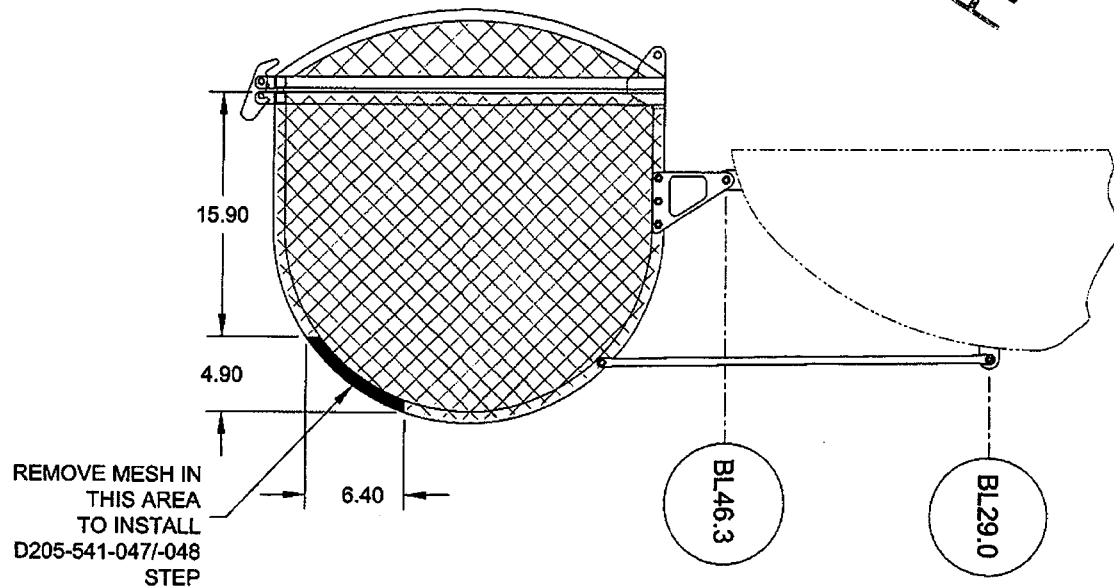

Figure 10 – Mesh Removal Looking Aft at STA 84.00
- 3.2.1 Grind off the mesh covering from the forward face of the basket in the area shown in Figure 10. De-burr and touch up finish with MIL-P-85582 or MIL-P-23377 primer.